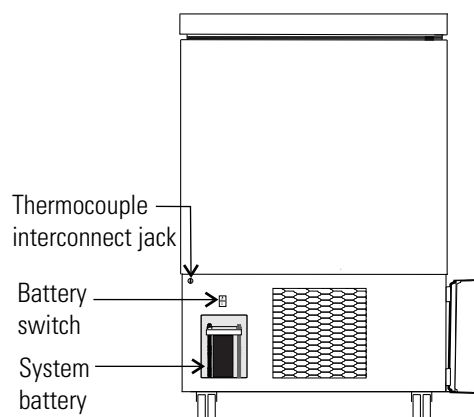

Figure 5-2. Battery and Switch location
2. Locate the battery power switch (Figure 5-2). Turn the battery power switch to the Off position (O).
3. Remove the two nuts securing the battery bracket. See Figure 5-2.